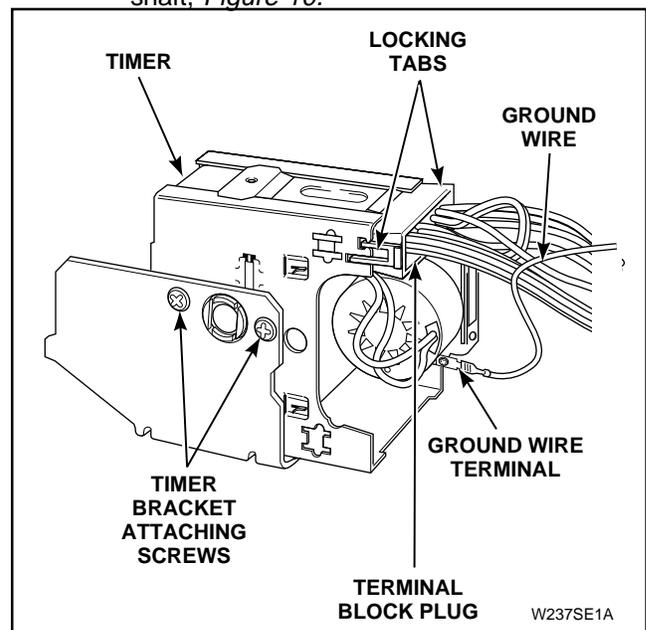

Figure 9
4. Disengage wire harness terminal block plug from timer by pressing in movable locking tabs (located on each side of terminal block plug), *Figure 9*. Then pull terminal block plug away from timer.
5. Disconnect earth (ground) wire from terminal on timer, *Figure 9*.
6. Remove two screws holding timer to timer bracket, *Figure 9*.
2. Attach timer to timer bracket using two screws, *Figure 9*.